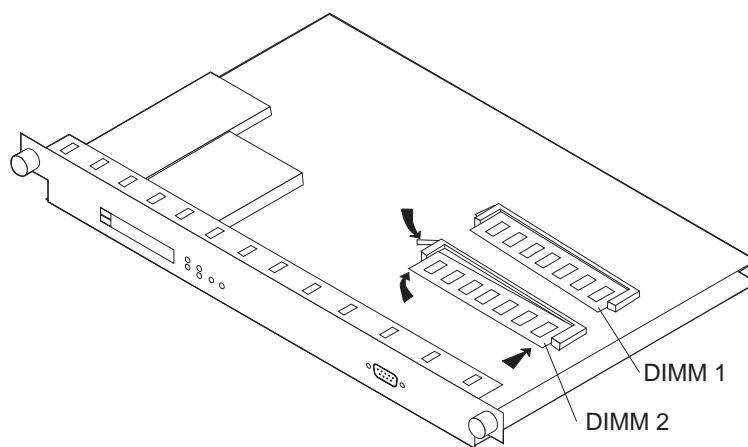

Figure 3. DIMM Slots on System Card
3. On the **System card**, locate the DIMM sockets (see Figure 3).